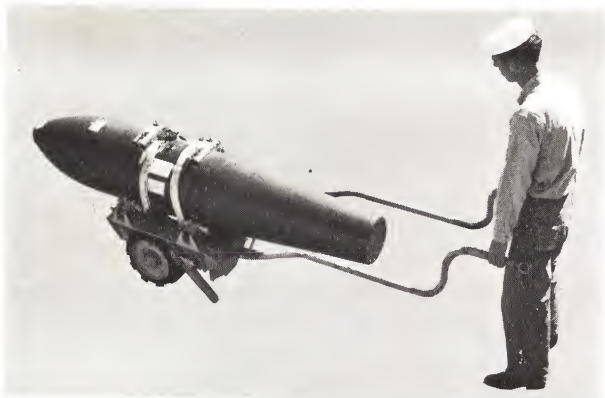

Figure 4-3. Dispenser on Aero 12B Bomb Skid With Soft-Shell Adapter Slings
5. Lift cluster bomb clear of container and place on Aero 12B or 12C bomb skid with soft-shell adapter slings, figure 4-3.
7. Remove plastic thread protectors (16) from fin attachment holes.